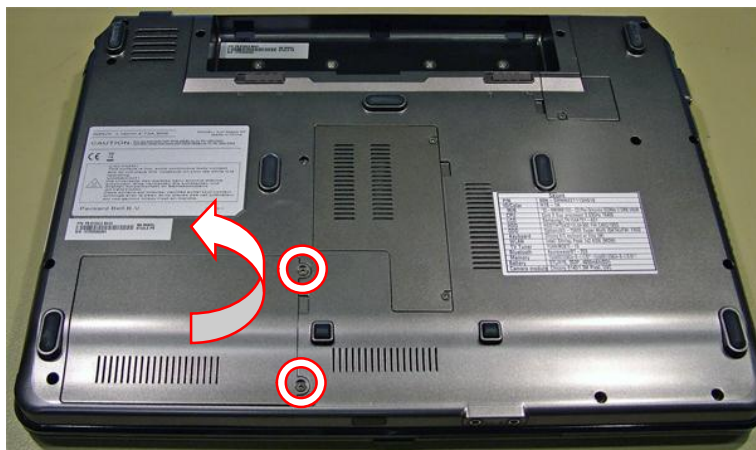

Fig. 2 Removing hard disk drive compartment cover.
2. Lift the cover upwards from the right. There are two tabs holding the cover in place on the left. Raise the cover until you can remove it from the casing (see Fig. 2).